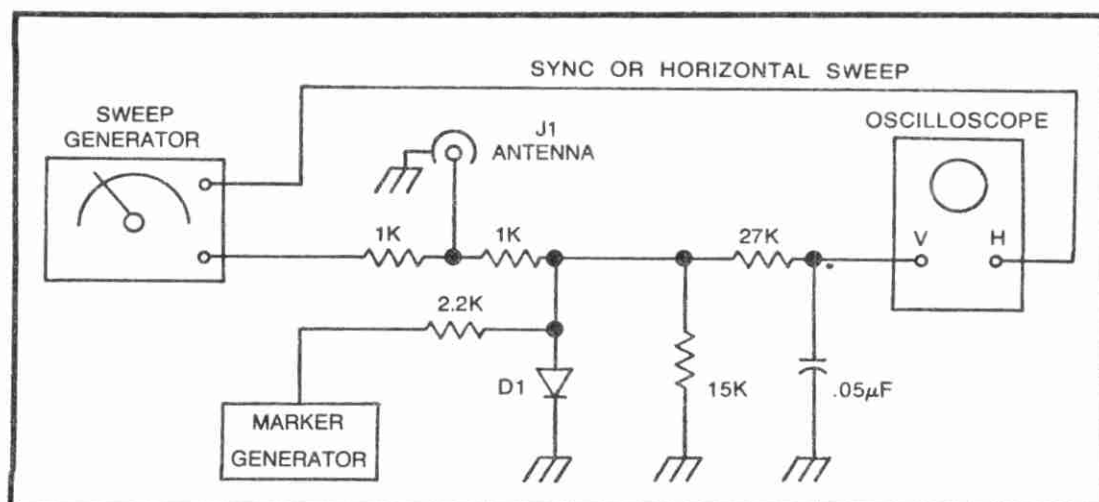
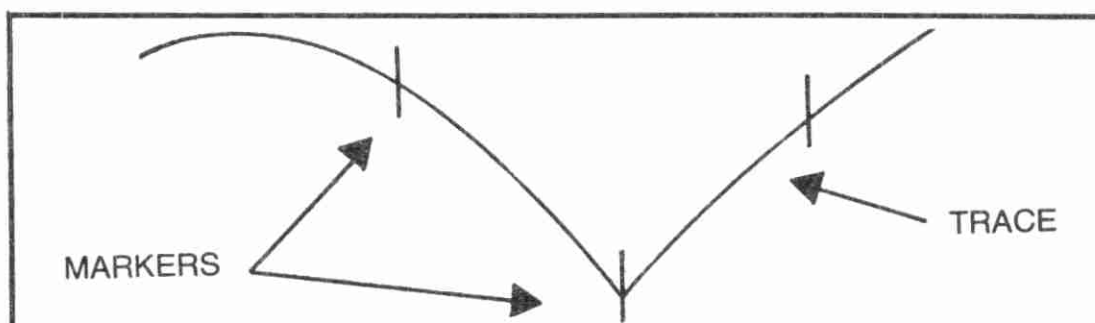

Fig. 26-12. Test equipment for swept measurements of antennas.
Fig. 26-13. Trace from swept measurement.
A frequency-modulated (FM), or sawtooth-modulated, sweep generator can also be pressed into service to “wring out” antennas and transmission lines. The equipment needed to make these measurements is shown in Fig. 26-12. The signals from the sweeper and a crystal-controlled marker generator, which is used to help identify points on the curve displayed on the oscilloscope, are combined in a nonlinear resistor/diode adder circuit. The output of the adder is a DC voltage, and remains relatively constant at frequencies near resonance, a null or dip is noted. A sample oscilloscope trace is shown in Fig. 26-13. This particular trace is common to transmission lines that are shorted at one end. By noting the frequencies at which the marker “pips” occur we can determine at which frequency this cable is one-half wavelength.